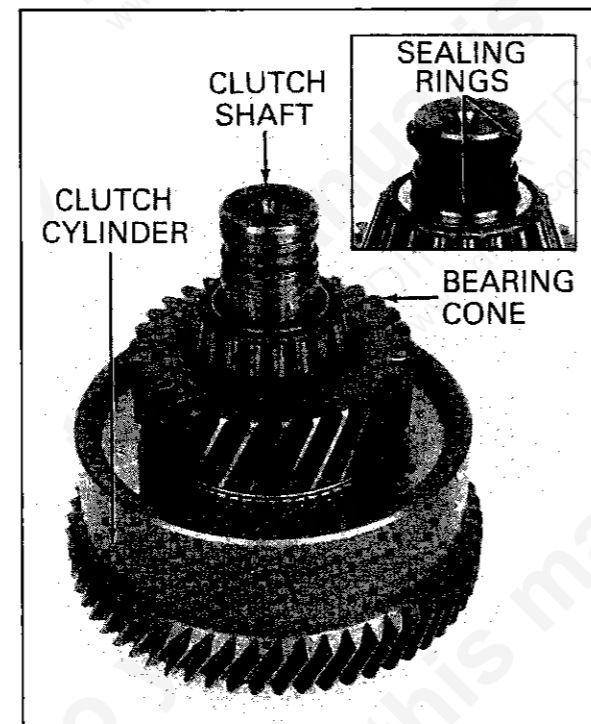

FIG. 31 CLUTCH SHAFT BEARING CONE INSTALLATION
28. Press on the inner race of the bearing cone while installing the bearing cone onto the shaft. Seat the bearing cone on the shaft shoulder. The clutch gear should have from 0.003 to 0.016 inch (0.07-0.41 mm) end play after the bearing is pressed against the shaft (Fig. 31).